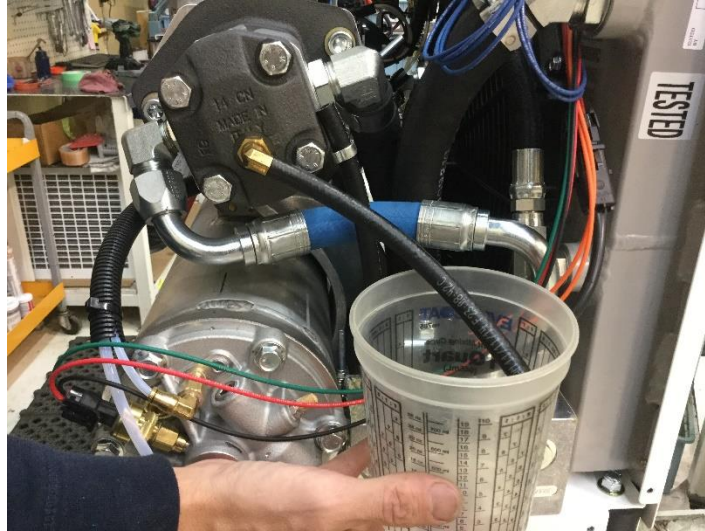

Figure 4
- 4) Direct the loose end of the temporary hose into a measuring cup. (Figure 4)